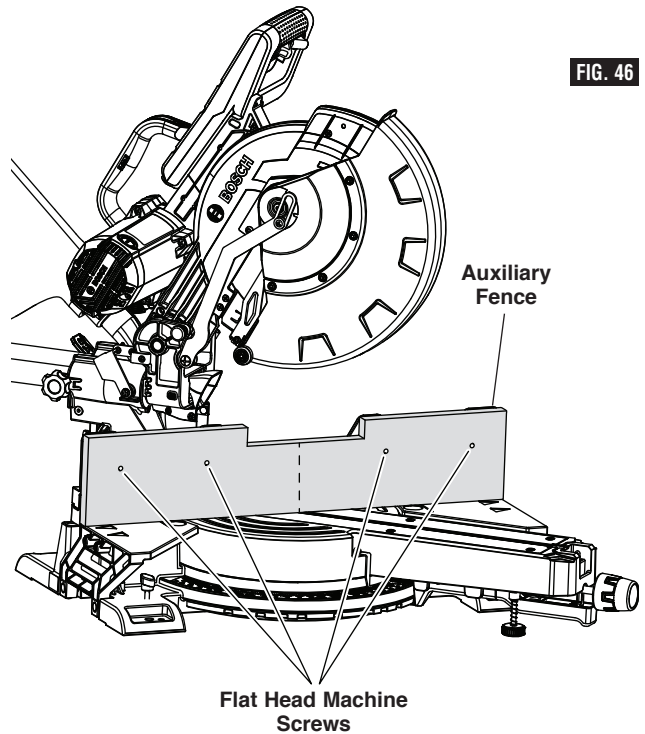

FIG. 46
2. Place the auxiliary fence against the miter saw fence (figure 46). Check that auxiliary fence does not interfere with head assembly. Check for interference between the auxiliary fence and the lower blade guard. Make adjustments as necessary.
3. Mark the locations of the support holes on the wood from the back side of the fence (figure 46).